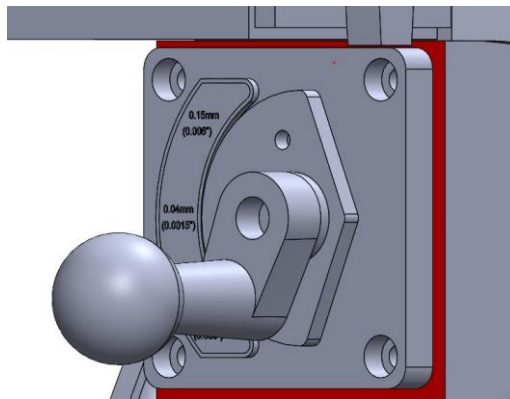

Figure 4
- **Location & Function** – The Feed Rate Lever (Figure 4) controls the per-revolution feed rate of the power feed mechanism.